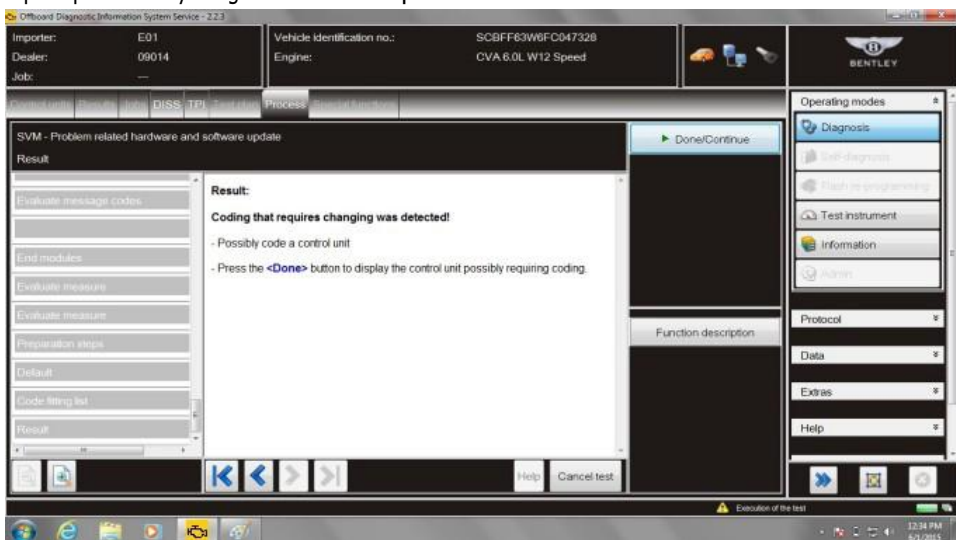

Figure 4
13. Coding that requires changing will be detected select Continue (see Figure 4)